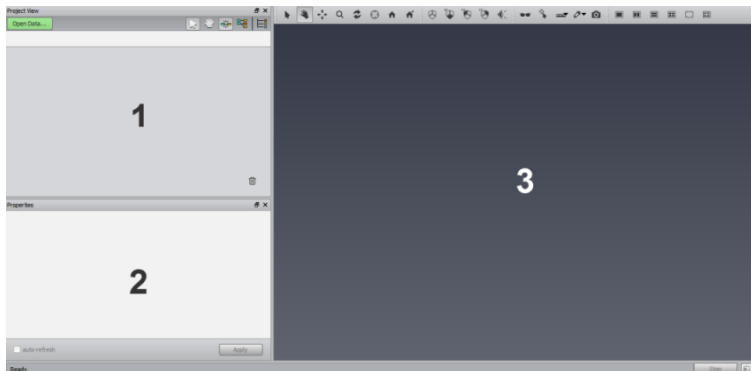

Figure 18.59: Amira user interface
Amira user interface is divided into three major regions: The Project View (1) contains folders where data and modules will appear. The Properties area (2) displays interface elements (ports) associated with Amira objects. The 3D viewer window (3) displays visualization results (see Figure 18.59).